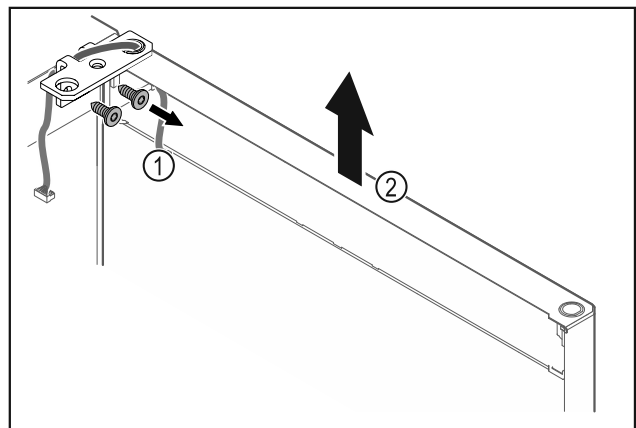

Fig. 23
- Unscrew the hinge Fig. 23 (1).
- Lift the door with the hinge straight up by Fig. 23 (2) roughly 200 mm (7.87 in) and take it off.